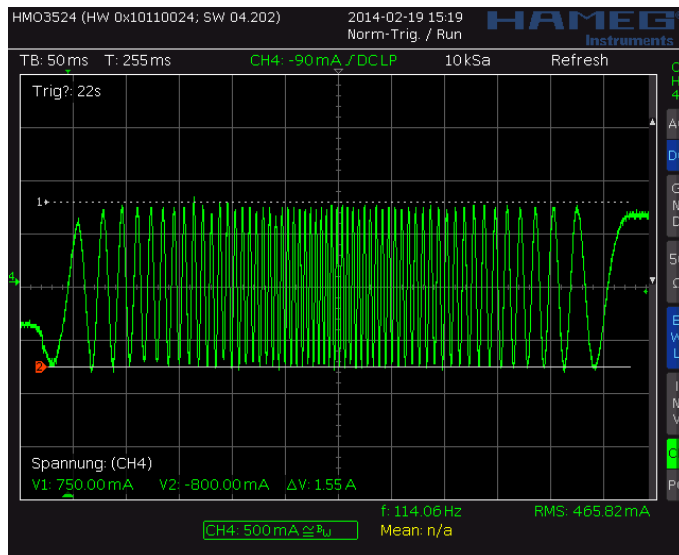
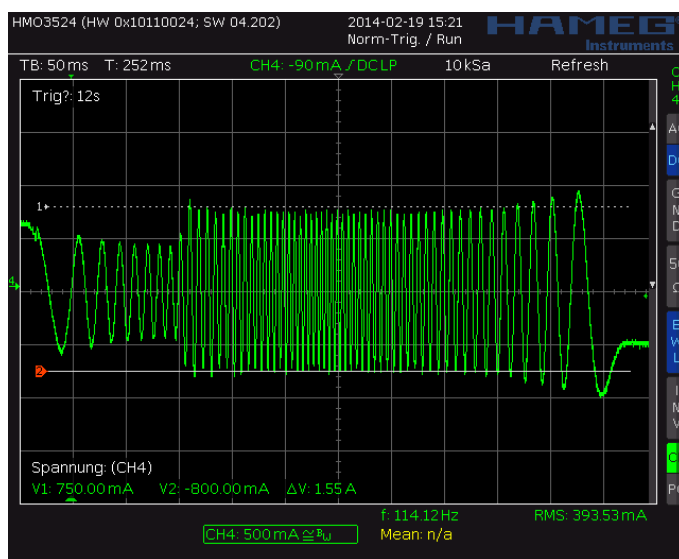
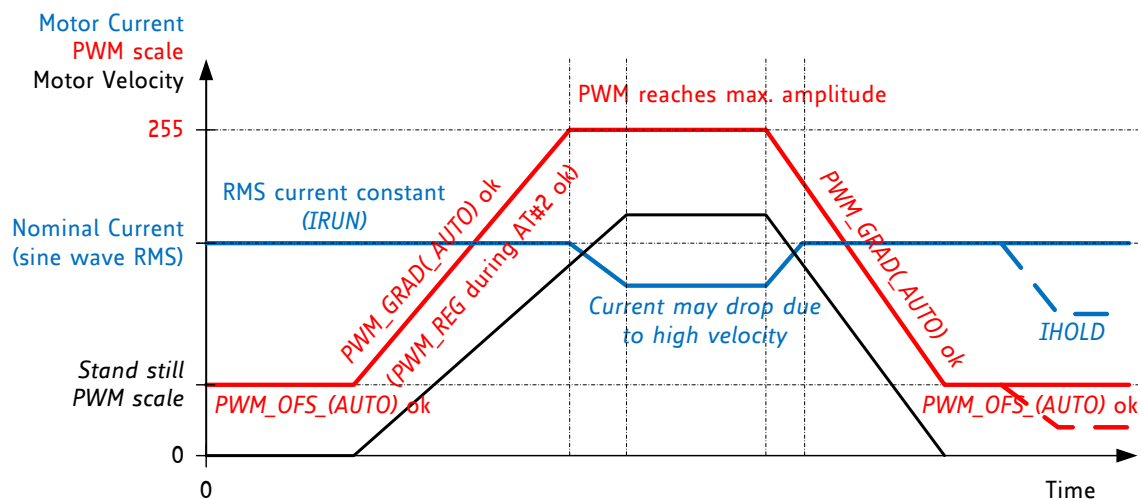

Figure 6.3 Scope shot: good setting for PWM_REG
Figure 6.4 Scope shot: too small setting for PWM_REG during AT#2
Figure 6.5 Successfully determined PWM_GRAD(AUTO) and PWM_OFS(AUTO)
In StealthChop voltage PWM mode, the autoscaling function (*pwm_autoscale* = 1, *pwm_auto_grad* = 1) regulates the motor current to the desired current setting. Automatic scaling is used as part of the automatic tuning process (AT), and for subsequent tracking of changes within the motor parameters. The driver measures the motor current during the chopper on time and uses a proportional regulator to regulate *PWM_SCALE_AUTO* in order match the motor current to the target current. *PWM_REG* is the proportionality coefficient for this regulator. Basically, the proportionality coefficient should be as small as possible in order to get a stable and soft regulation behavior, but it must be large enough to allow the driver to quickly react to changes caused by variation of the motor target current (e.g. change of VREF). During initial tuning step AT#2, *PWM_REG* also compensates for the change of motor velocity. Therefore, a high acceleration during AT#2 will require a higher setting of *PWM_REG*. With careful selection of homing velocity and acceleration, a minimum setting of the regulation gradient often is sufficient (*PWM_REG*=1). *PWM_REG* setting should be optimized for the fastest required acceleration and deceleration ramp (compare Figure 6.3 and Figure 6.4). The quality of the setting *PWM_REG* in phase AT#2 and the finished automatic tuning procedure (or non-automatic settings for *PWM_OFS* and *PWM_GRAD*) can be examined when monitoring motor current during an acceleration phase Figure 6.5.